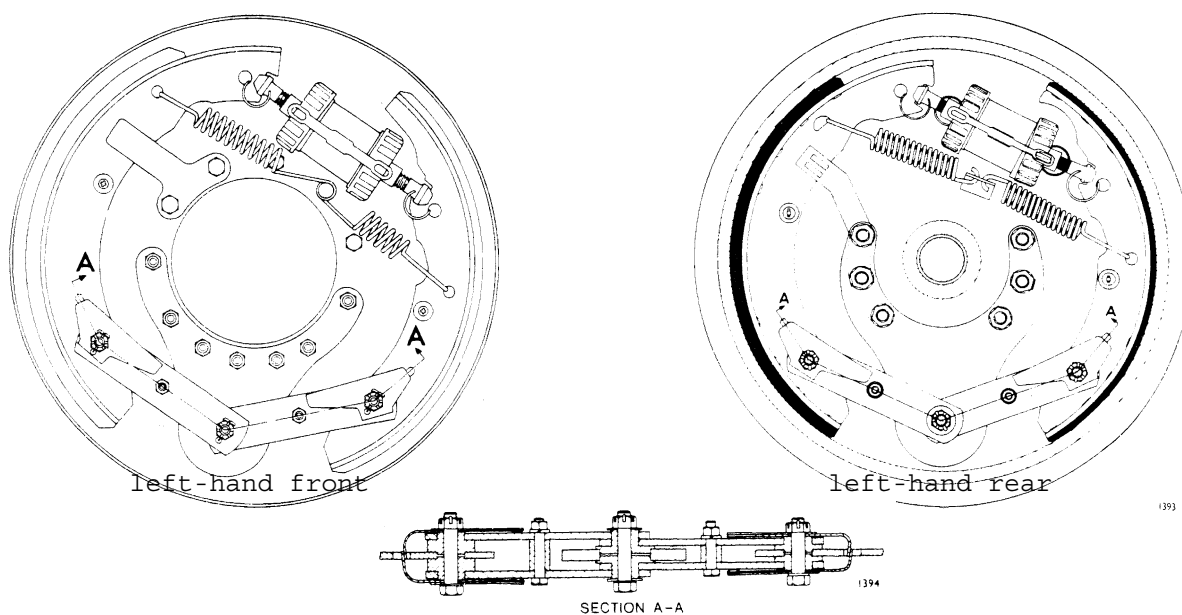

Fig 5 - Brake assemblies
8 Pedal setting is controlled by the combination of the pedal stop bolt (1) and the footbrake valve push rod (2). Adjust pedal stop bolt until dimension 'A' (Fig 5) is 25 mm (10 in.). Detach pedal return spring from push rod relay lever (3) and push rod from brake pedal. With the brake pedal against its stop and the footbrake valve in the off position, adjust the push rod clevis to align with the brake pedal and reassemble. Back off pedal stop bolt half a turn to provide pedal free travel.